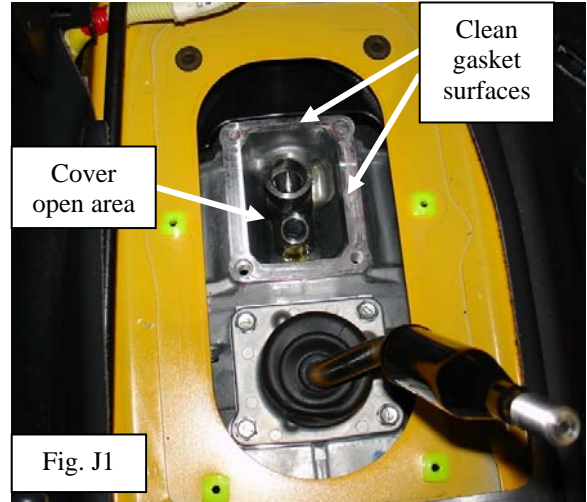

Fig. I2
- ⚠ 2. If necessary, use a plastic head hammer to tap the shift lever retainer to remove it from the transmission. (Fig I2)